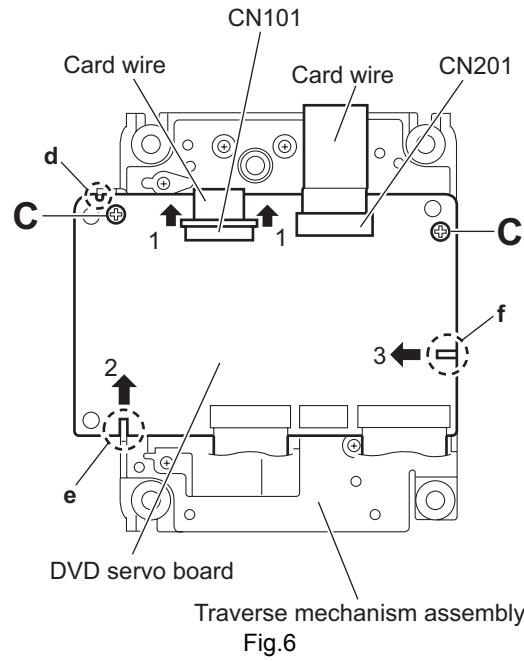

Fig.6
- From the bottom side of the traverse mechanism assembly, release the lock of the connector CN101 on the DVD servo board in the direction of the arrow 1 and disconnect the card wire. (See Fig.6.)
- Disconnect the card wire from the connector CN201 on the DVD servo board. (See Fig.6.)
- Remove the two screws **C** attaching the DVD servo board. (See Fig.6.)
- Remove the DVD servo board from the engagement section **d** in an upward and remove the engagement section **f** in the direction 3 while removing the engagement section **e** in the direction of the arrow 2. (See Fig.6.)